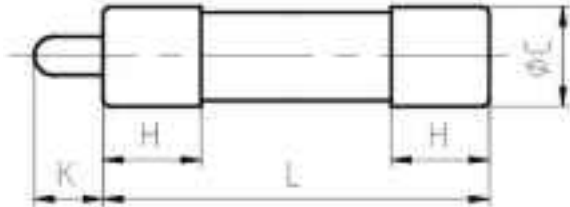

Figure 1 Outline dimensions of the fuse link
5.1 Outline dimensions of the fuse link: As specified in Figure 1 and Table 2.